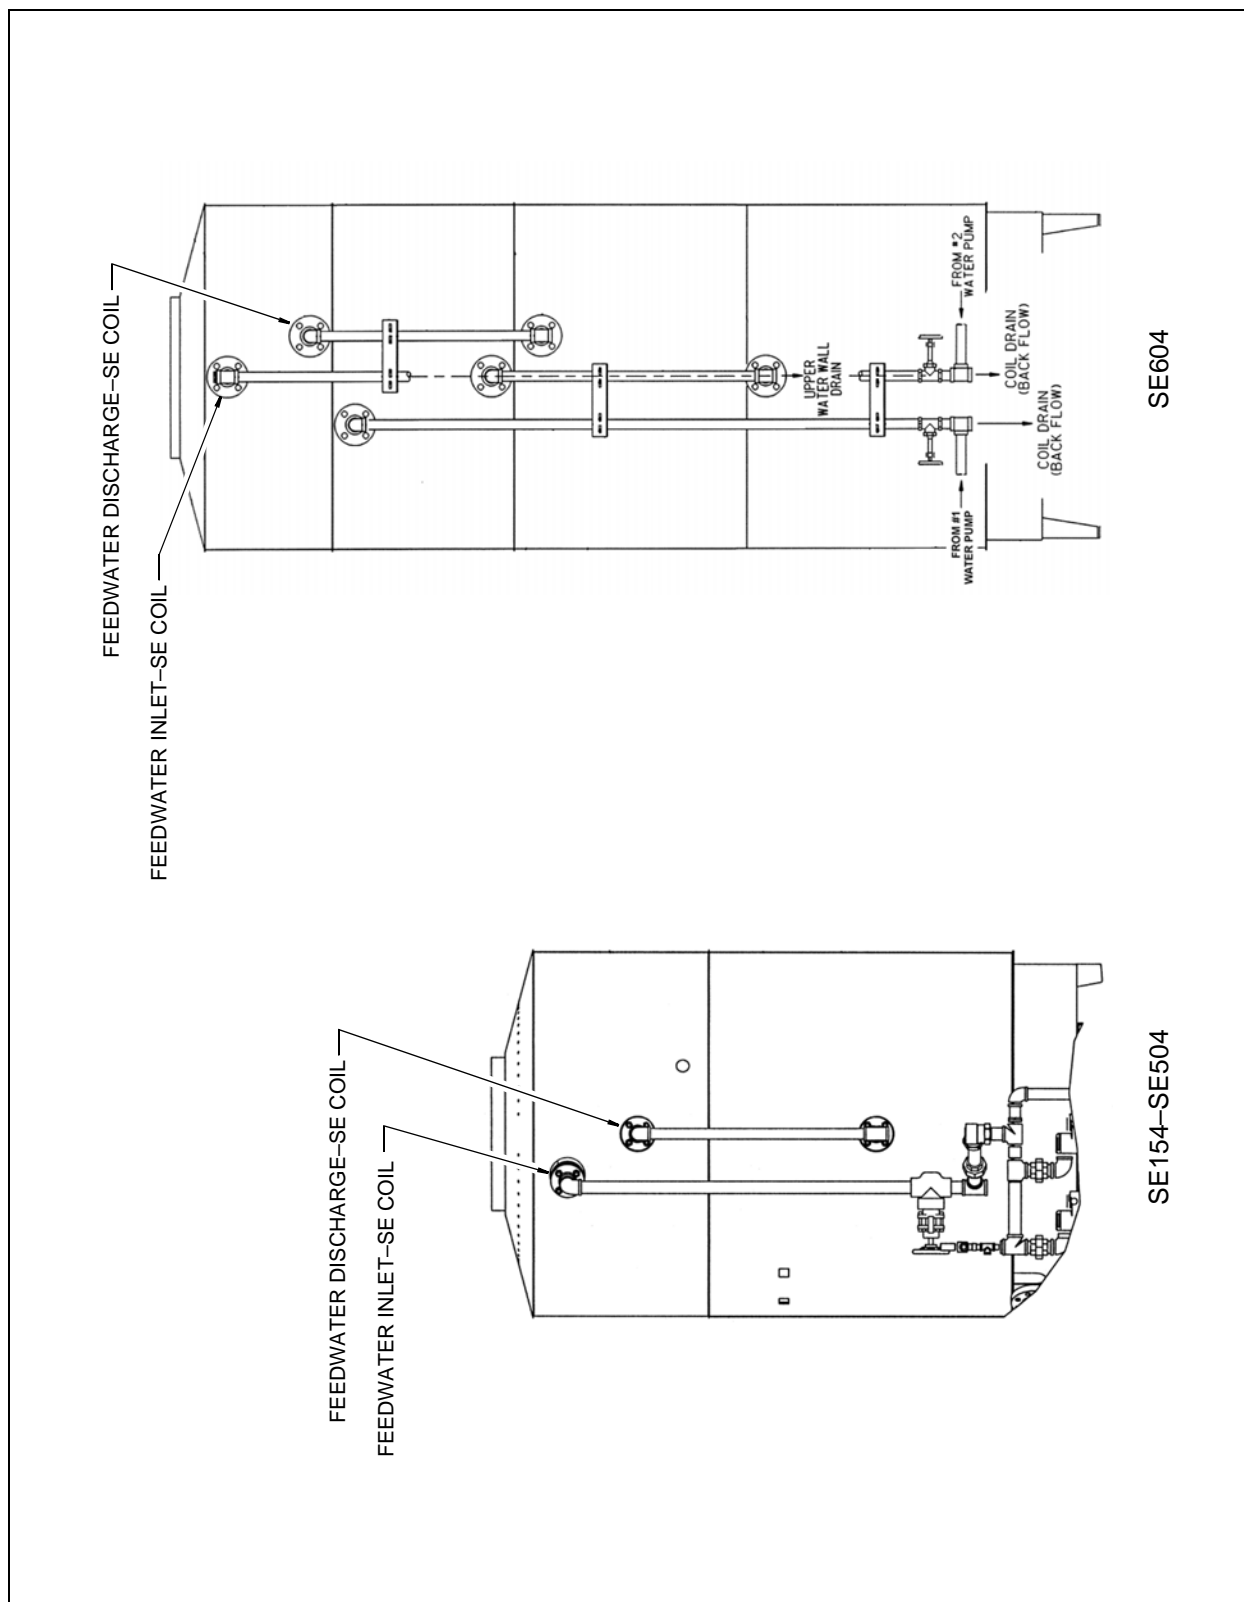

Figure 2 SE Kit completed hookup (rotated 90° counterclockwise)
- d. Rotate the SE coil assembly, as needed, to align the feedwater inlet(s), as shown in Figure 2 and 3.
- b. Install the pre-assembled SE piping to the feedwater supply side and the feedwater discharge side of the machine, as shown in Figures 2 and 3.